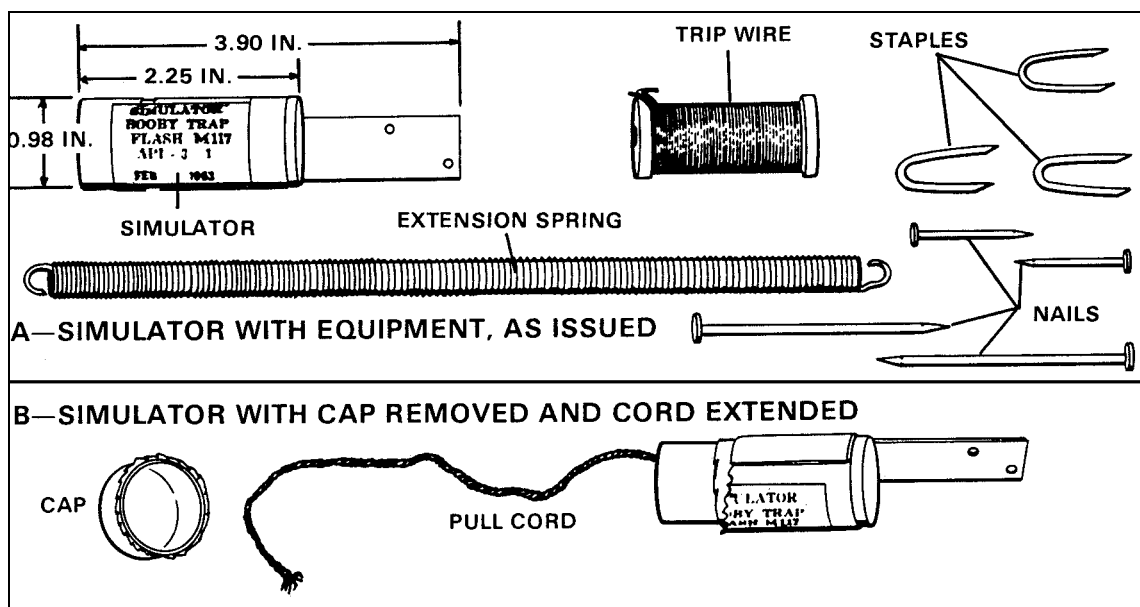

Figure 5-4. M117 simulator.
a. The booby trap simulator, M117, (Figure 5-4) is used during training and military exercises. This device allows training in the installation and use of booby traps. When tripped or activated, the simulator functions with a flash and loud report.